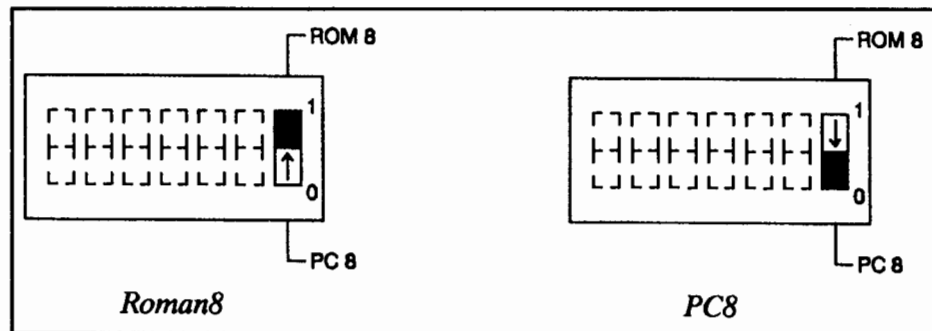

Figure 2-23. Switch Settings for Roman8 and PC8 Character Sets
- Setting the ROM8/PC8 switch on establishes the Roman8 symbol set as shown in Figure 2-23.